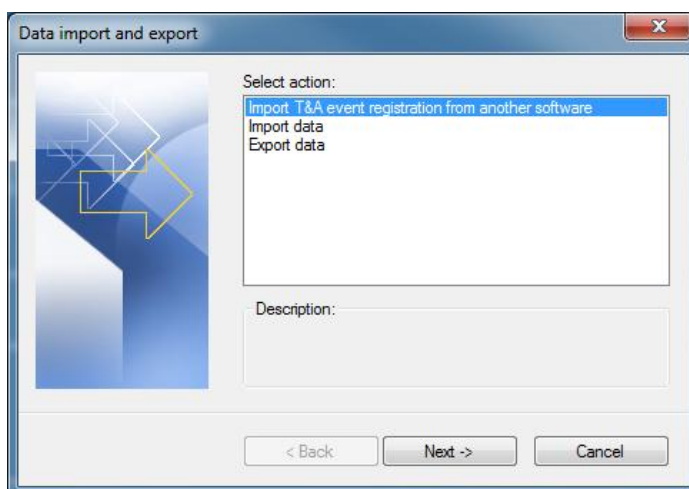

Figure 16. Data Import and Export Wizard — step 1
2. In the **DATA IMPORT AND EXPORT** dialog box (figure 16) select **IMPORT T&A EVENT REGISTRATION FROM ANOTHER SOFTWARE**. Click **NEXT**.